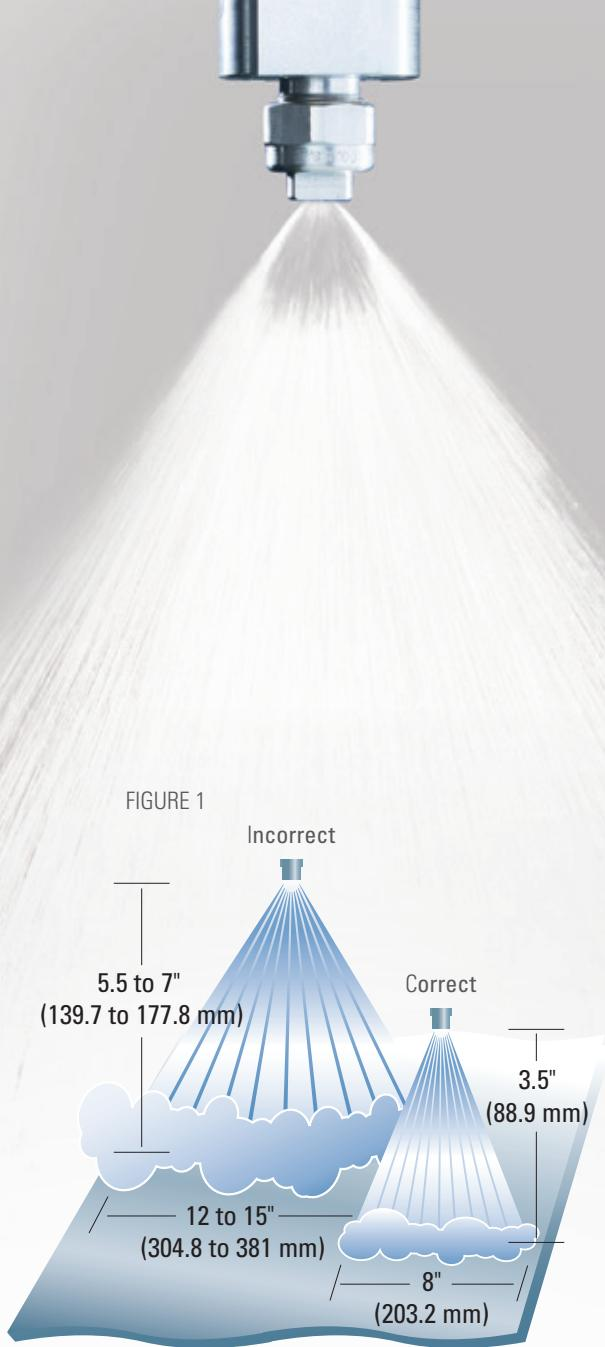

FIGURE 1
- Keep spray height as low as possible to cover the target. To cover a wide target, use a wide-angle spray tip or use multiple nozzles. Do not increase nozzle distance from the target or excessive misting will occur. **See figure 1**